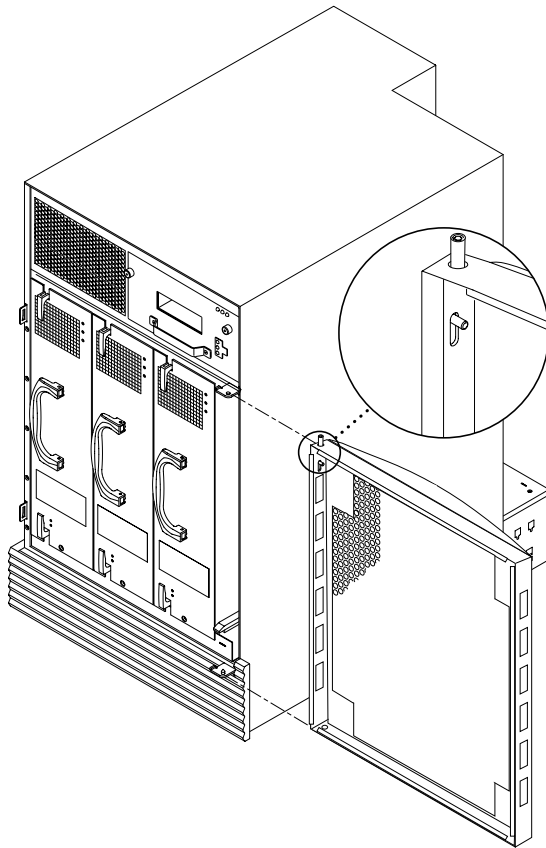

FIGURE 12-20 Removing the Front Door—Sun Fire 4800 System
6. Remove the front door (FIGURE 12-20).
8. Replace the front door (FIGURE 12-20).